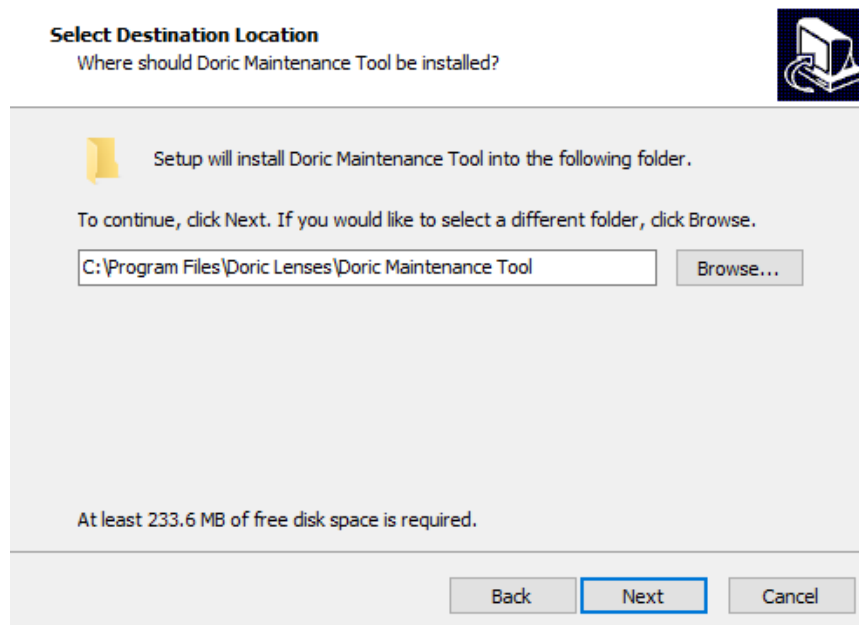

Figure 2.4: Select Destination Location
3. **Choose** where to install the software (Fig. 2.4) and click **Next**.